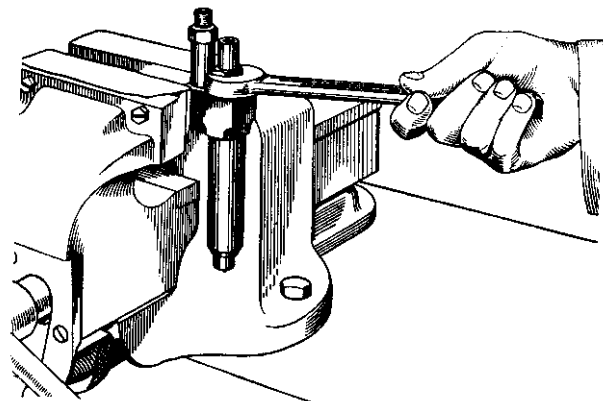

Fig. 5
- v. The injector should now be held in a vice as shown in Fig. 5.